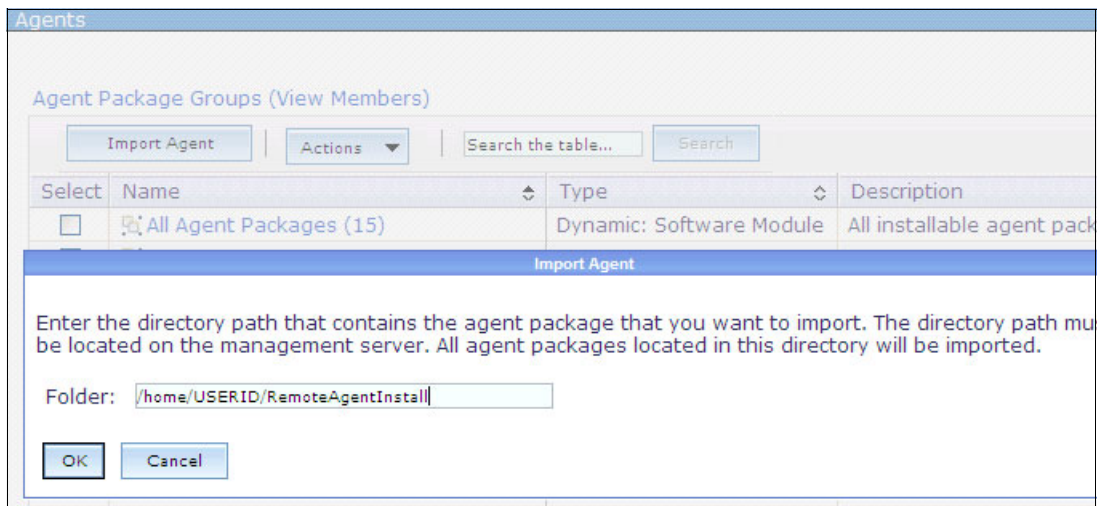

Figure 12-4 Path to import agent
3. Specify the path that contains the agent that you want to import and click **OK**, as shown in Figure 12-4.